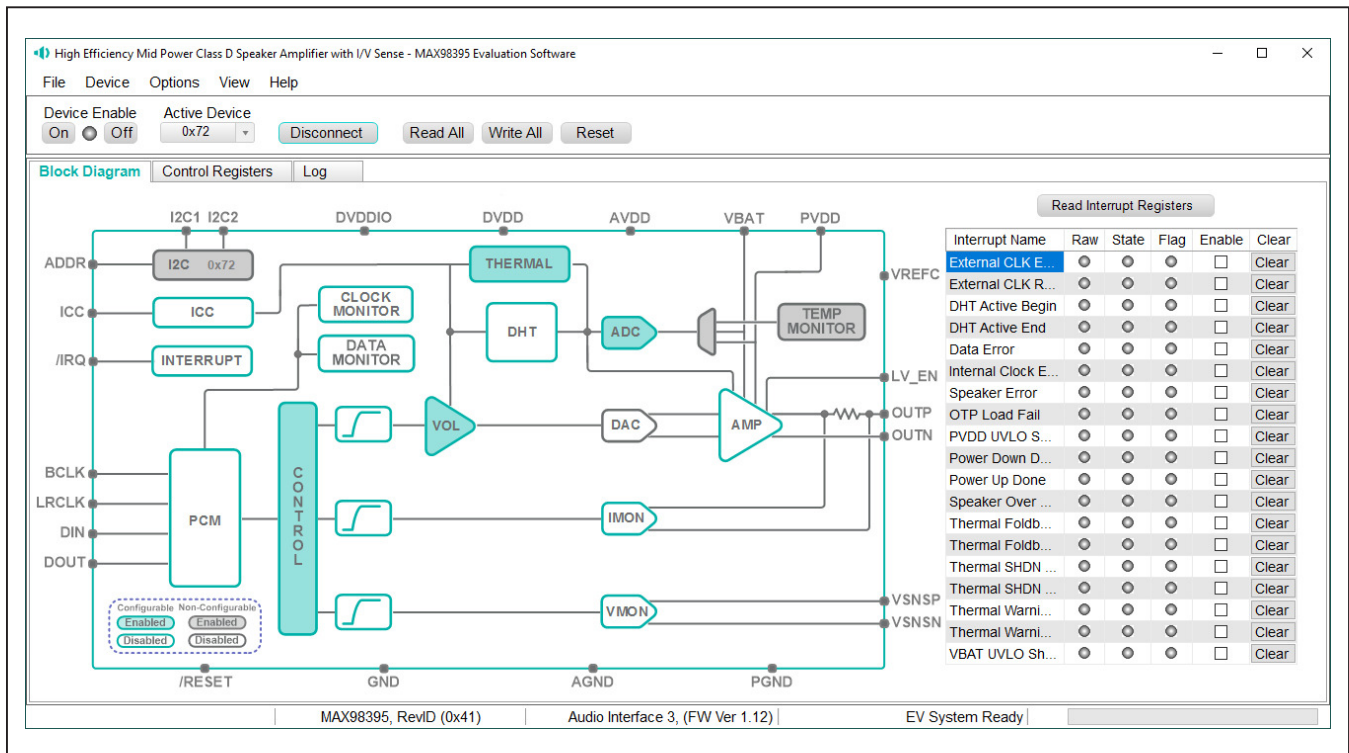

Figure 2. MAX98395 Evaluation Software
- 2) Launch the MAX98395 Evaluation Software and wait while the software connects to the EV system. See Figure 2.
The MAX98395 Evaluation Software's main window in Figure 2 is composed of four main sections: menu bar, communication tool bar, tabbed pages, and a status bar. The menu bar provides additional features to aid evaluation, the toolbar provides basic functionality for communicating with the device, and the status bar provides information about hardware connectivity and communication status. The tabbed pages make up the bulk of the GUI and provide the controls for programming the device's hardware registers.